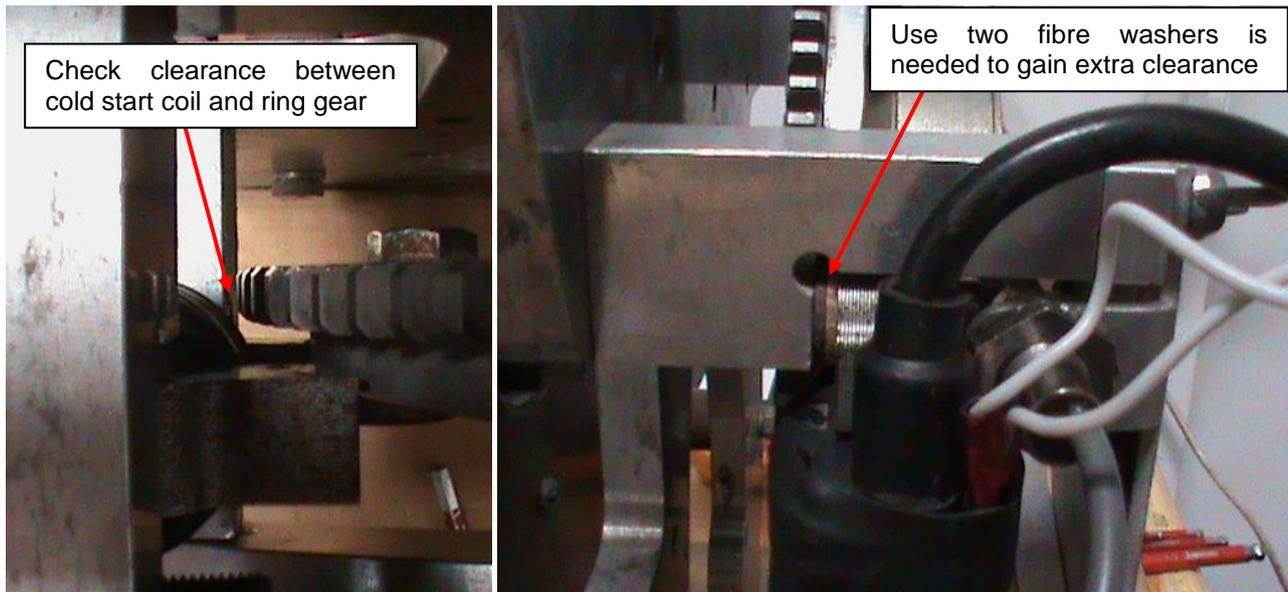

Figure 1 - Check cold start coil clearance from ring gear
- b) Before going any further check there is adequate clearance between the modified cold start coil and the flywheel ring gear (shown in Figure 1 left) if required two fibre washers should be used instead of one to gain more clearance (shown in Figure 1 right).